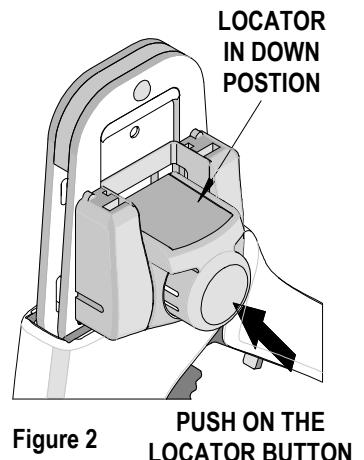

Figure 2 PUSH ON THE LOCATOR BUTTON
2. Make sure the center of the locator is in the down position. With the locator attached, push the locator button on the back of the hand tool to bring the locator forward through the tooling. See Figure 2.